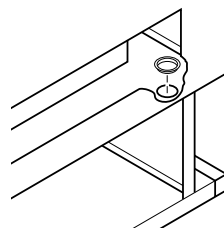

Figure 13 - Installing Bushing
5. Install one plastic bushing provided in blower kit into the 1 1/2" hole in the left rear of firebox floor. Access hole through the rectangular opening in the rear panel (see Figure 13).